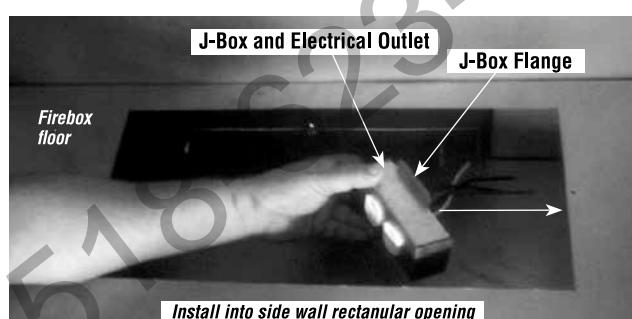

Figure 17
- *Squeeze the J-Box flanges together to fit into the opening shown in Figures 17 and 18.*